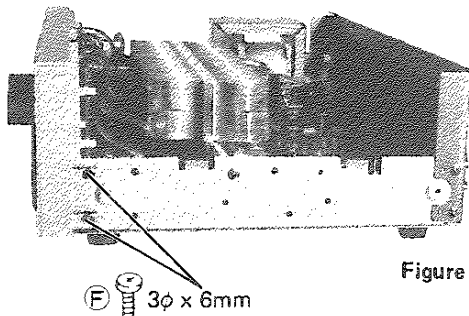

Figure 9
4. Remove the four screws (F) and (G) (3φ x 6mm) from right side and left side, as shown in Figures 9 and 10.